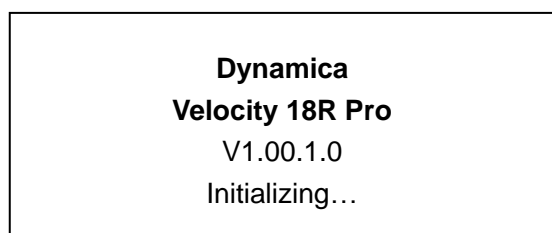

Figure 7-1 Initialization interface
■ This centrifuge first starts a self-checking process. Then the LCD Screen displays a welcome interface (see Figure 7-1).